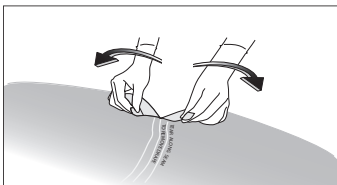

Figure 12
- Tear along seam to remove drape (refer to Figure 12).